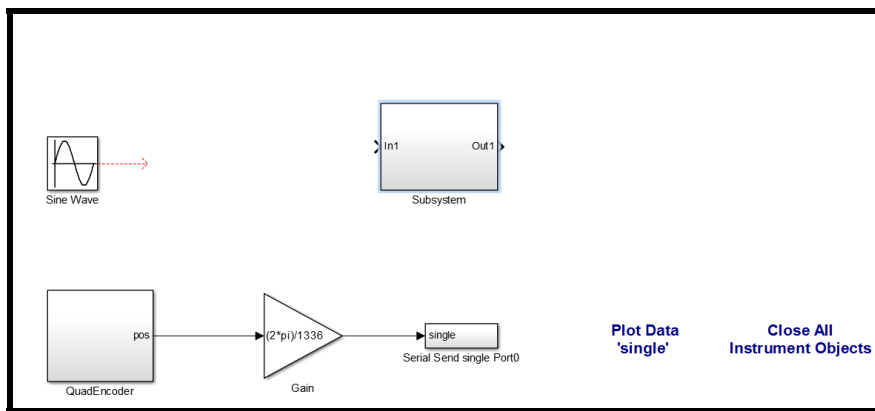

Figure 3.6: Current Model
17. The model should now resemble Figure 3.6. Add a Sum block to the model (Simulink → Commonly Used Blocks → Sum).